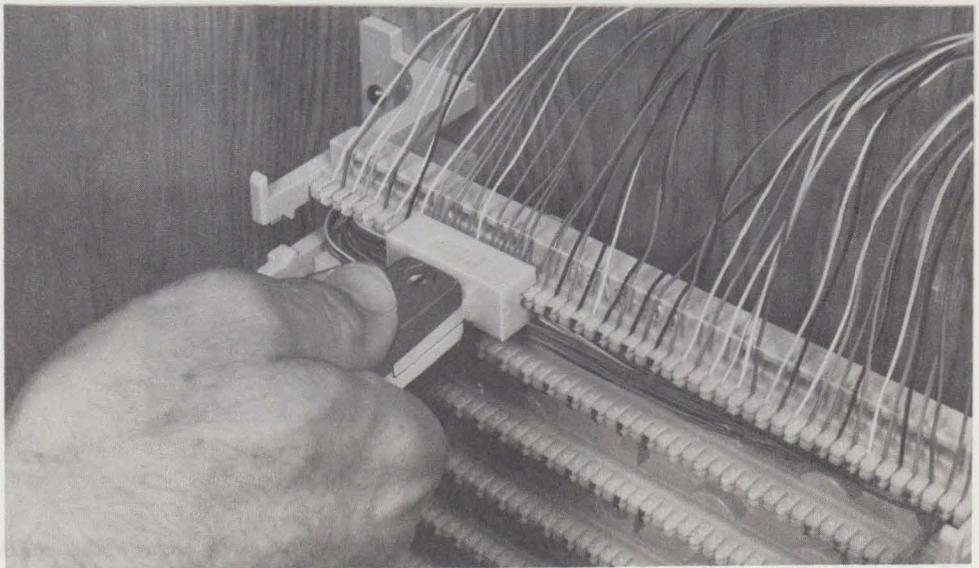

Fig. 17—Seating Conductors in Index Strip
3.12 After all pairs are placed in a pair of index strips adjacent to a cable space, the 788B1 or 788J1 insertion tool is used to seat the conductors in the index strip (Fig. 17). Start at the end of the index strip nearest the cable entrance and work across the block. Make sure conductors are bottomed in the index strip, especially when using larger gauge wire. Use only enough pressure to seat conductors: **Do not hammer on 788B1 insertion tool.**